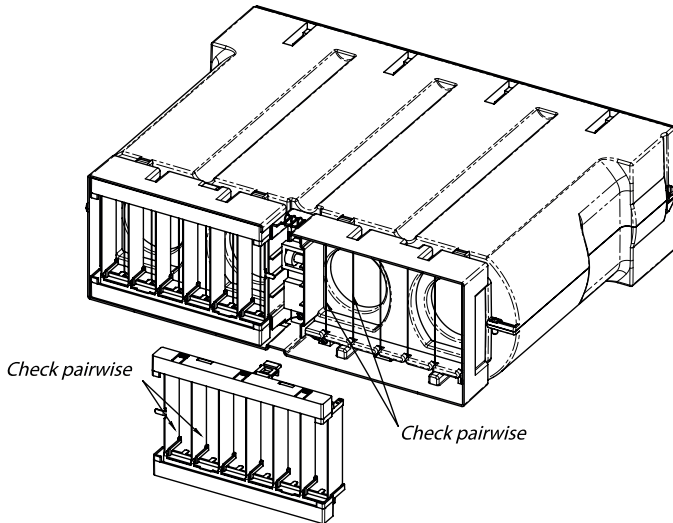

Figure 21. Cleaning the charger
7. Gently wipe the metal plates of the chargers in the electrostatic unit and corona discharge electrodes (in the form of wires) with a cloth. The plates and corona wires of the charger are shown in Figure 21;